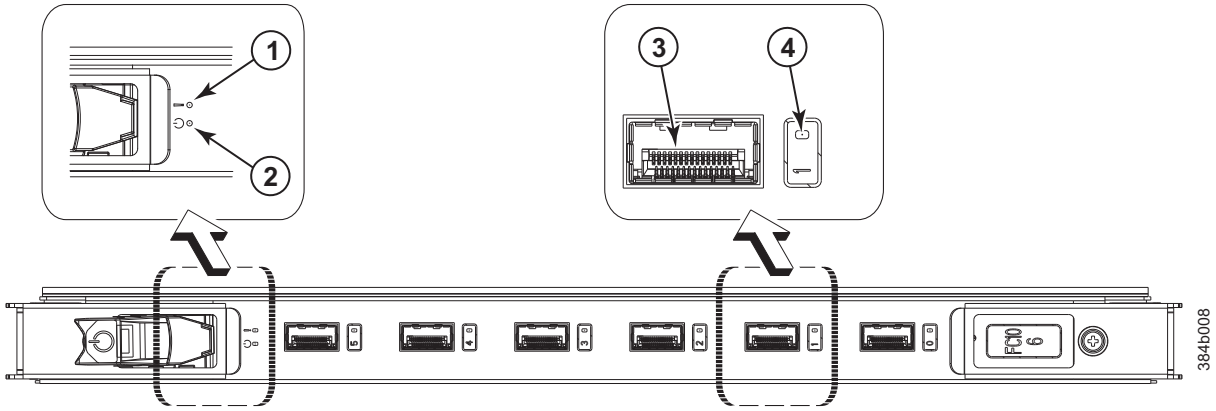

Figure 23. FC10-6 port blade
- Figure 23 on page 52 illustrates the FC10-6 port blade